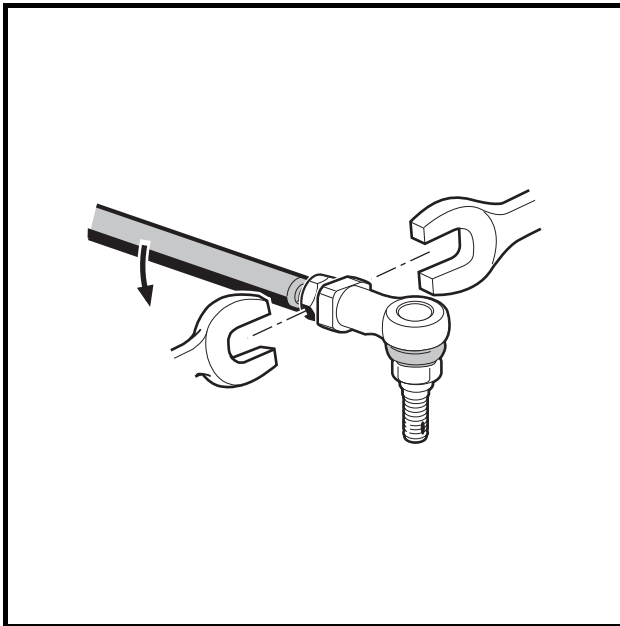

Figure 7-9 Ball Joint
1. Remove the two ball joints and inspect for excessive wear (Figure 7-9, Page 7-7).